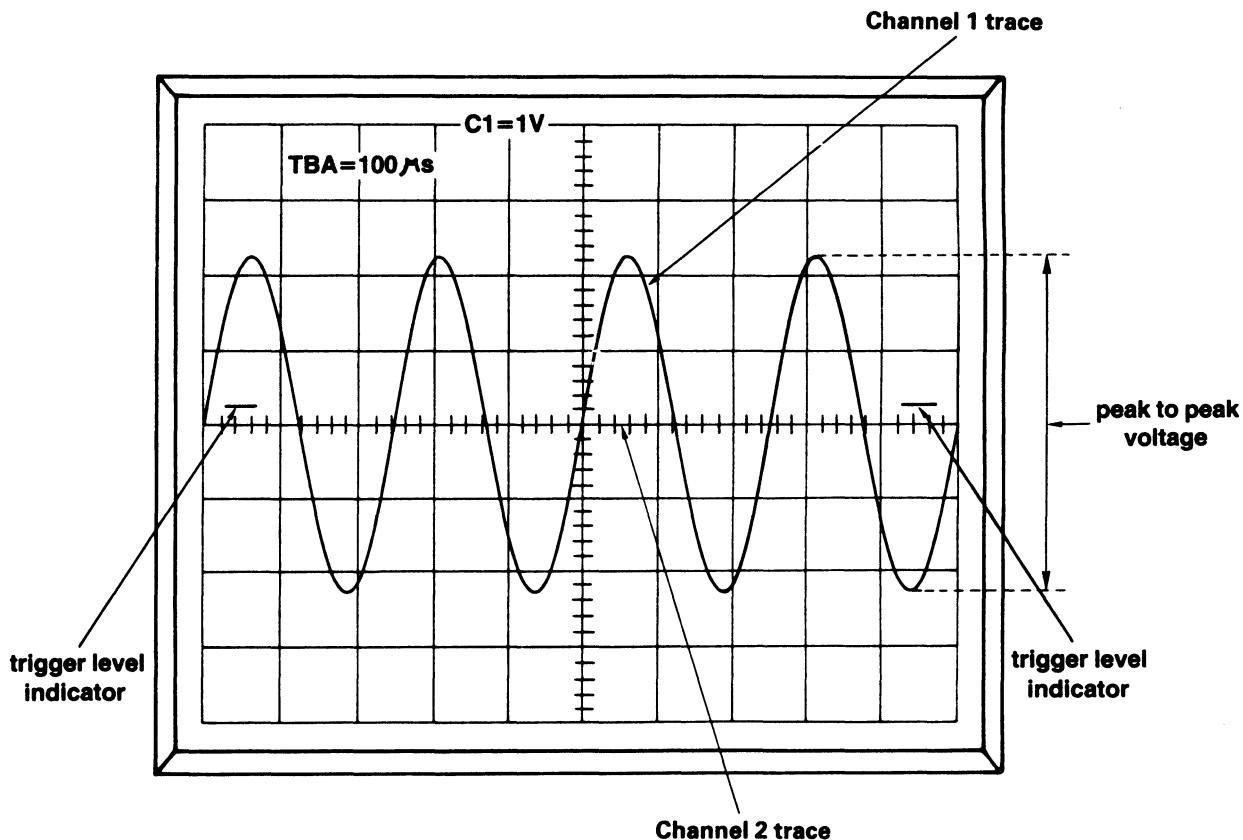

Figure 1.1.3 An Auto Setup Display
On the 4070, obtaining a display of an input signal is particularly simple. Connect a signal (less than plus or minus 400V peak) to the oscilloscope via any input socket (for 4072 ⑧ or ⑨, for 4074 ⑧, ⑨, ⑩, or ⑪) and press the **Auto Setup ⑦** button. Assuming you've applied a regular signal, say a 4kHz sine-wave with an amplitude of perhaps 5V peak to peak, it will almost immediately be represented on the display. An example is shown in Figure 1.1.3.